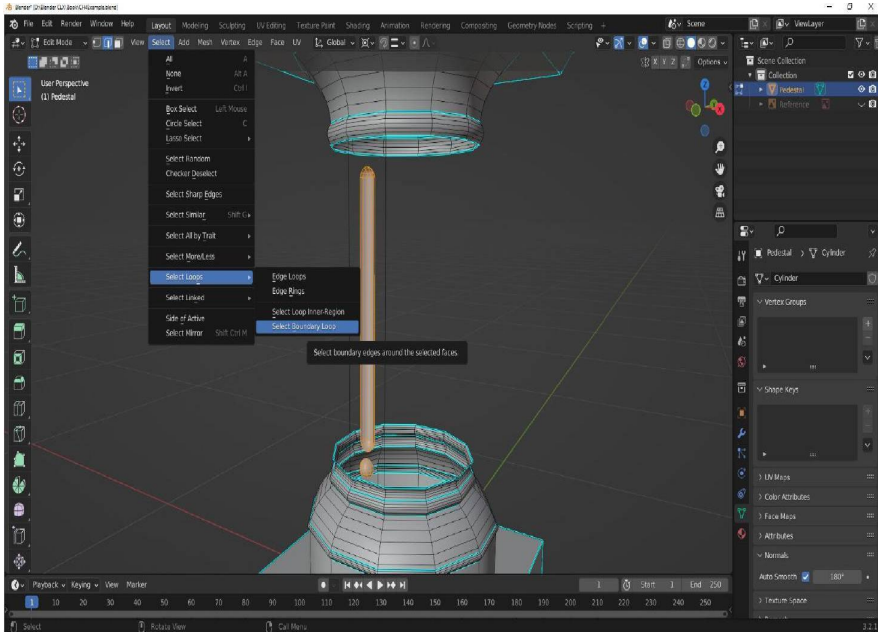

Figure 4.33: Selecting Boundary Loop to mark sharp, via Select | Select Loops | Select Boundary Loop
22. Finally, we'll mark the open edges of each hemisphere sharp, by first selecting each hemisphere via **L**, then under the **Select** menu in the upper left menu in the 3D Viewport, choose **Select Loops | Select Boundary Loop** as shown in *Figure 4.33*, then **Ctrl + E | Mark Sharp**.